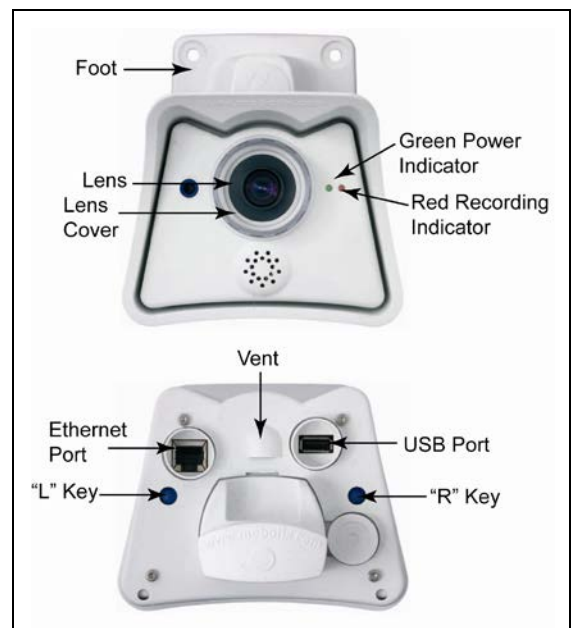

Figure 8: Mobotix Webcam
3. Connect the Ethernet cable to the back of the webcam. Refer to **Figure 8**.